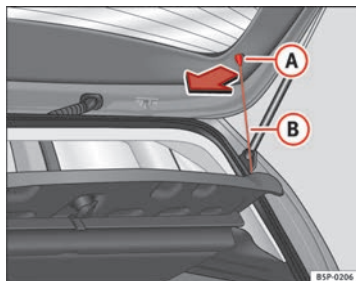

Fig. 123 Rear shelf
- Unhook the loops ⇒ fig. 123 (B) from housings (A)